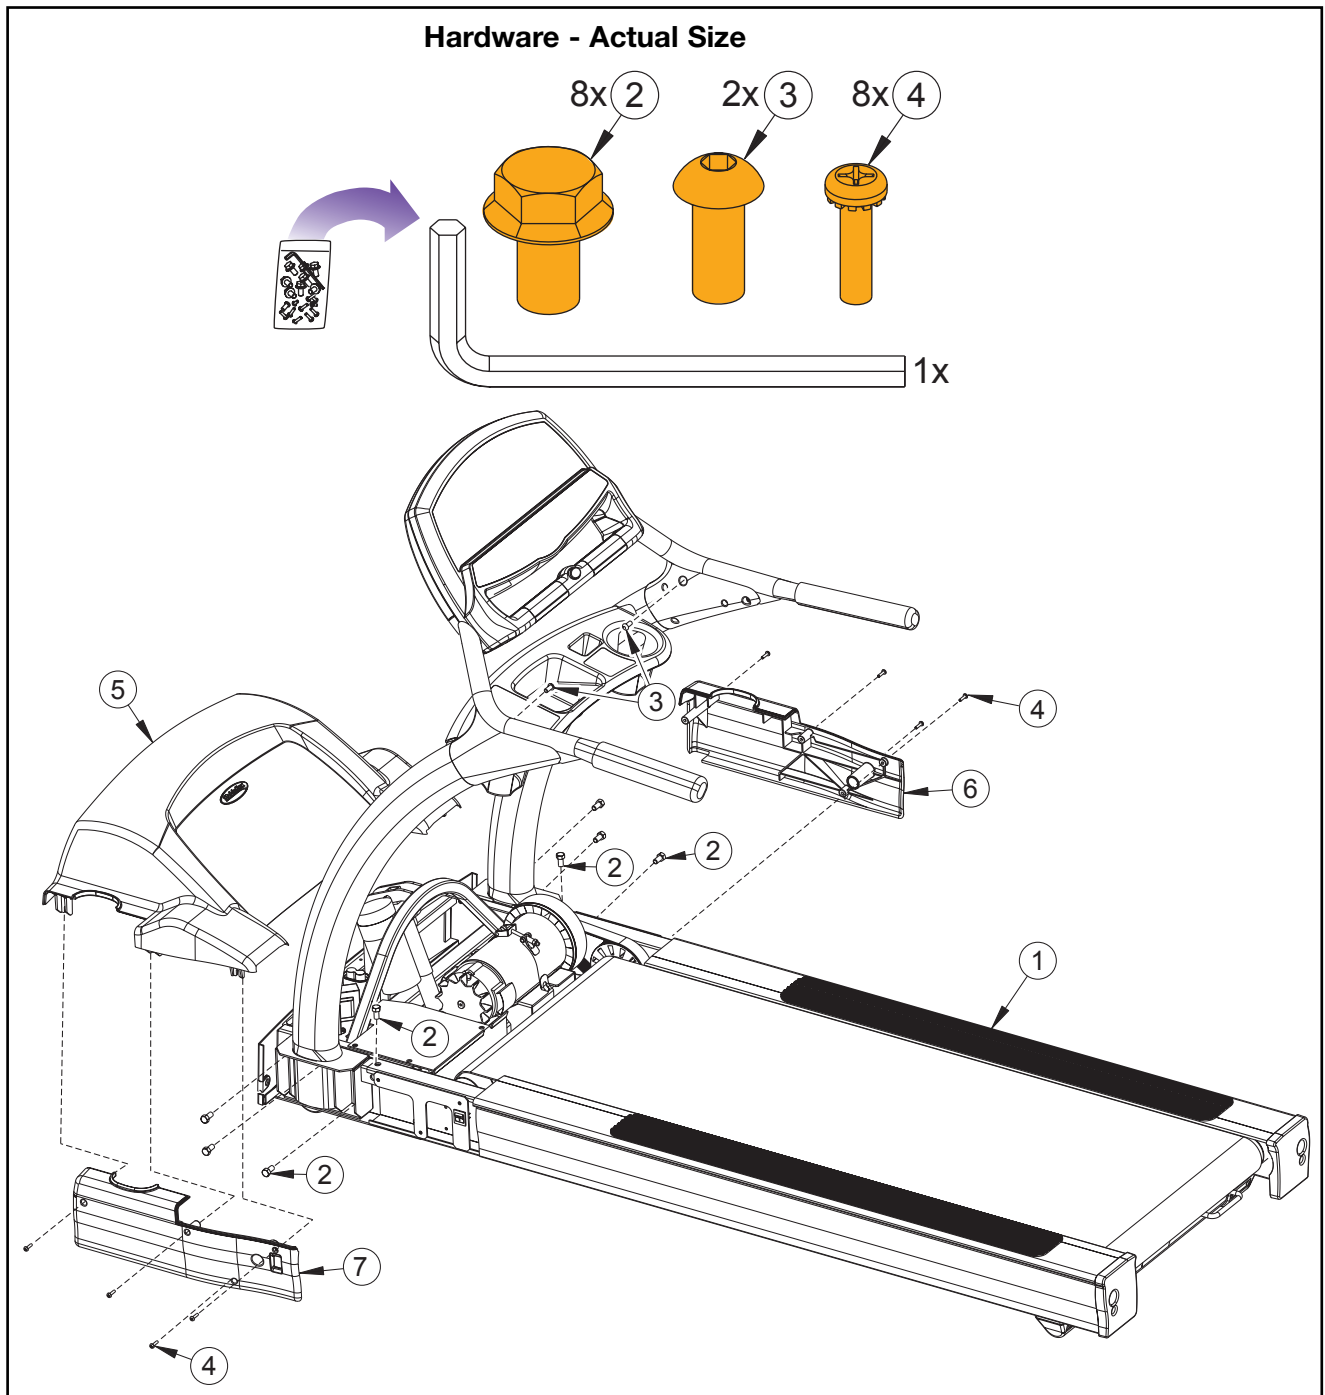

Figure 3
D. Check off (✓) each item in the hardware pack as you find it. See Figure 3.